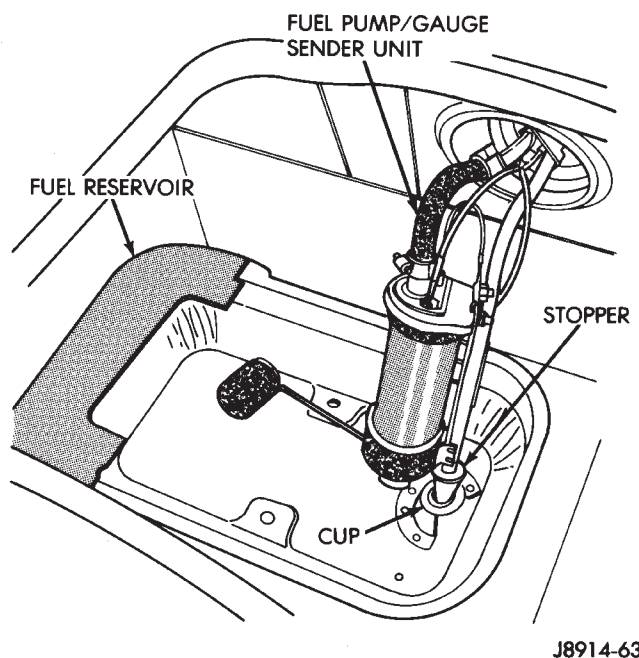

Fig. 3 Fuel Pump Module—XJ Models—Installation
(1) Install new fuel pump inlet filter onto fuel pump.
(2) Install fuel pump module assembly and new O-ring seal. The rubber stopper on the end of the fuel return tube of the assembly must be inserted into the cup in the fuel tank reservoir (Fig. 3).